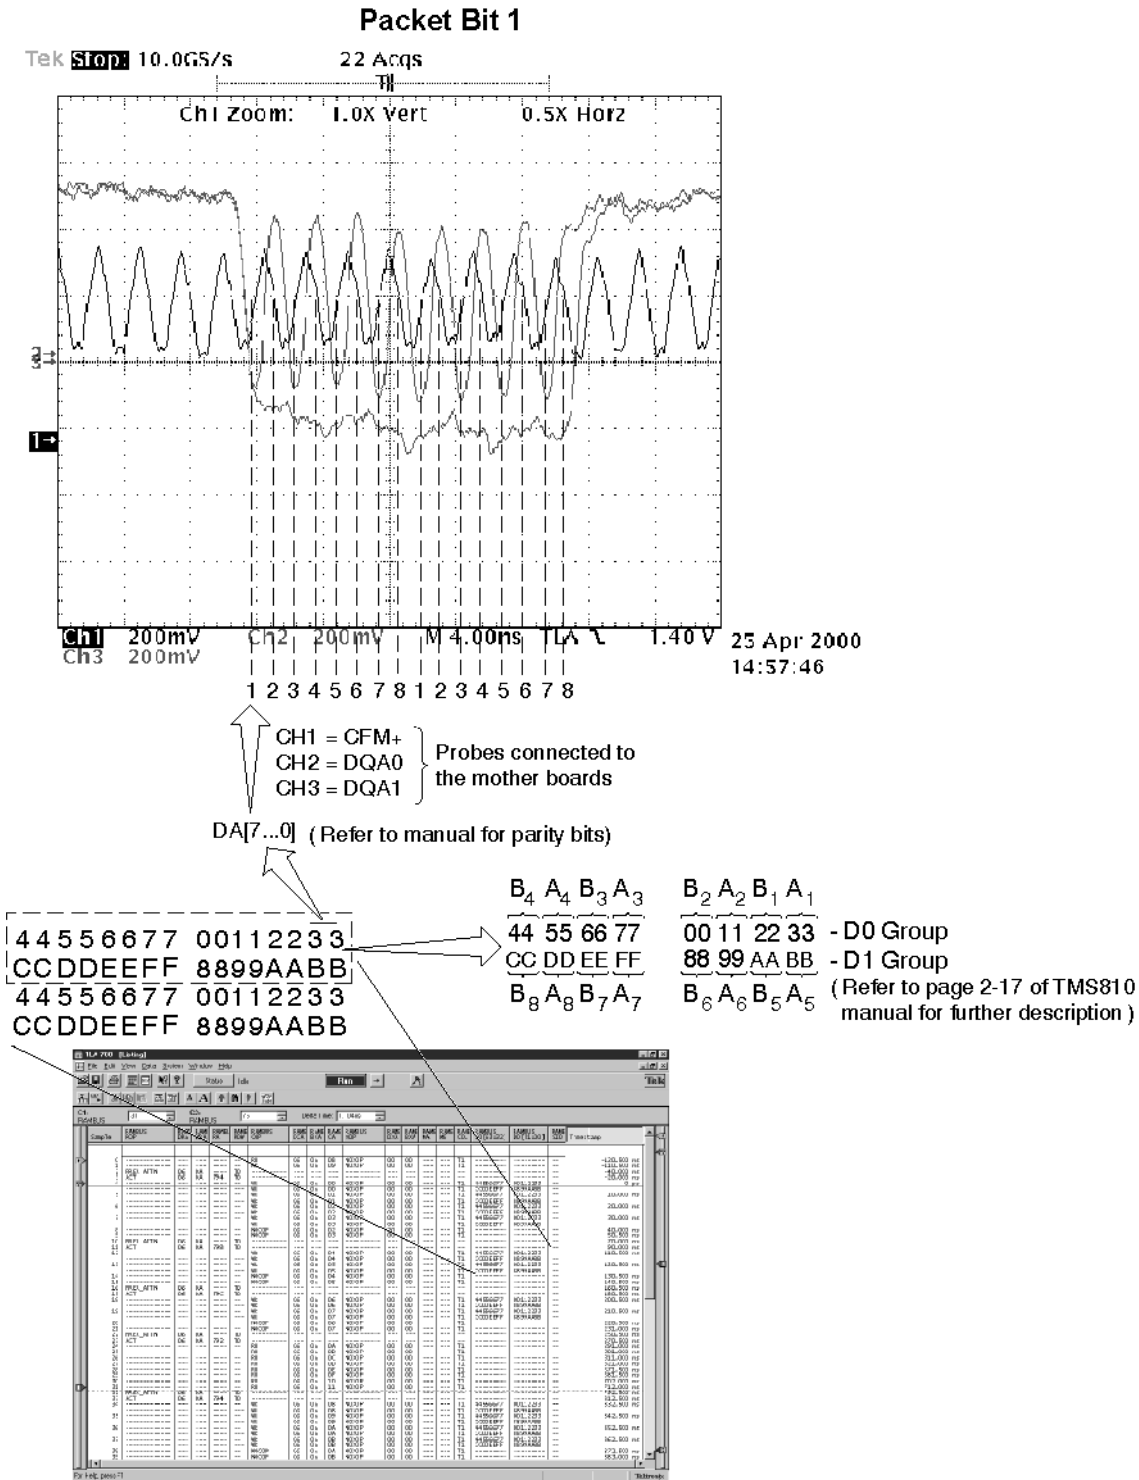

Figure 2-6: Expanded View of Packet Bit 1
**Examples.** Figures 2-6 through 2-13 show one full packet for DQA0 and DQA1. They show how the logic analyzer bytes are related to the TDS oscilloscope display. Please refer to the chapter on operating basics for clarification and explanation of various orders such as FSB order, Rambus order, and the affect of having ECC on the bios. This example has ECC=OFF in the bios and uses the stacked method with D0 and then D1. Note that the bytes making up one packet are stacked on two lines. Tektronix calls the first line D0 and the second line D1. This stacking method saves screen width; however, the actual bit numbers in the logic analyzer display may appear misleading due to this method of display.